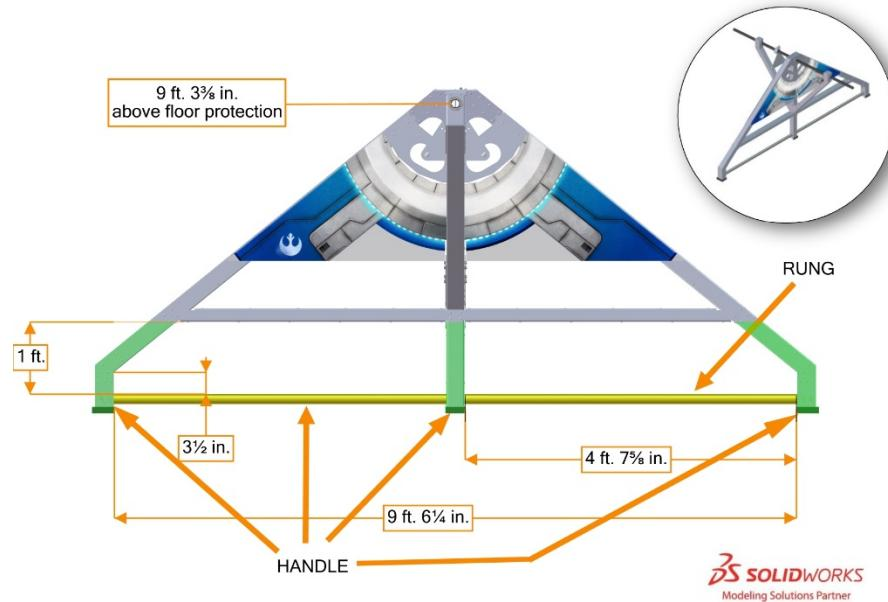

Figure 3-8 GENERATOR SWITCH
Each SHIELD GENERATOR has one (1) GENERATOR SWITCH per ALLIANCE. A GENERATOR SWITCH is a 7 ft. 6 in. (~229 cm) wide, 10 ft. 1½ in. deep (~309 cm), and 4 ft. 6 in. (~137 cm) tall assembly that swings from the top of the SHIELD GENERATOR. Each GENERATOR SWITCH has a HANDLE. The HANDLE is a structure that consists of a RUNG and the supporting structure below the horizontal beam of the GENERATOR SWITCH. A RUNG is a 1 ¼ in. schedule 40 aluminum pipe (1.66 in. (~4 cm) outer diameter) with two (2) exposed 4 ft. 7 ¾ in. (~141 cm) long sections. The amount of clearance above the RUNG varies from a minimum of 3 ½ in (~9 cm) to a maximum of 12 in (~30 cm). For safety, foam corner cushions line the lowest edges of the HANDLE. The HANDLE (green and yellow) and RUNG (yellow) are highlighted in Figure 3-8 for clarity.